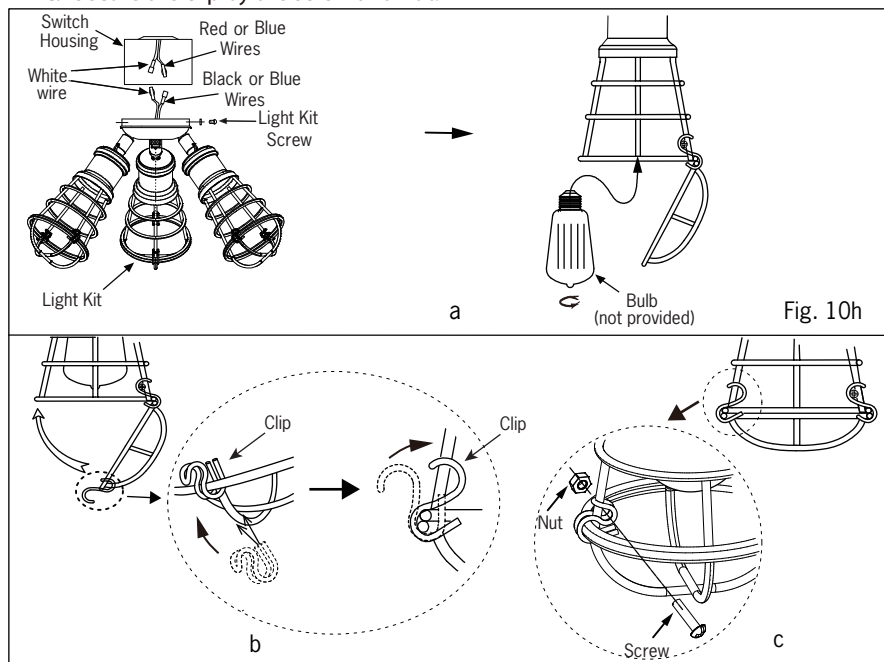

Fig. 10h
- Install specified bulb type and wattage (not included). (Fig.10h)
Place shades on light kit and secure with either screws, finger tight, spinner nut or push and turn for pop-off style shades. (See Fig. 10a, Fig. 10b, Fig. 10c, Fig. 10d, Fig. 10g, Fig. 10h, Fig. 10i).